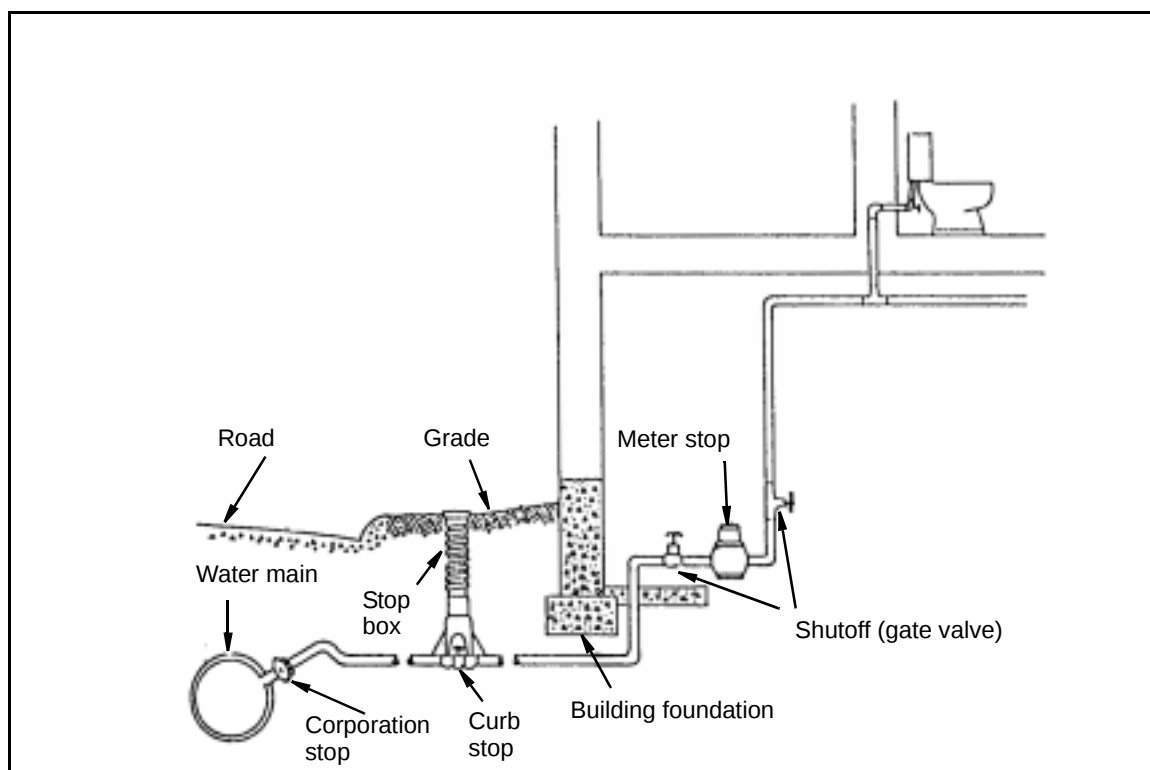

Figure 1-3. Curb and Meter Stops
- Step 14.** Remove the cap and drill tool. Place a corporation stop (*Figure 1-3, page 1-10*) in the boring bar, ensuring that the stop is closed.
1-35. Curb and meter stops control the water entering the building. *Figure 1-3* shows this installation.